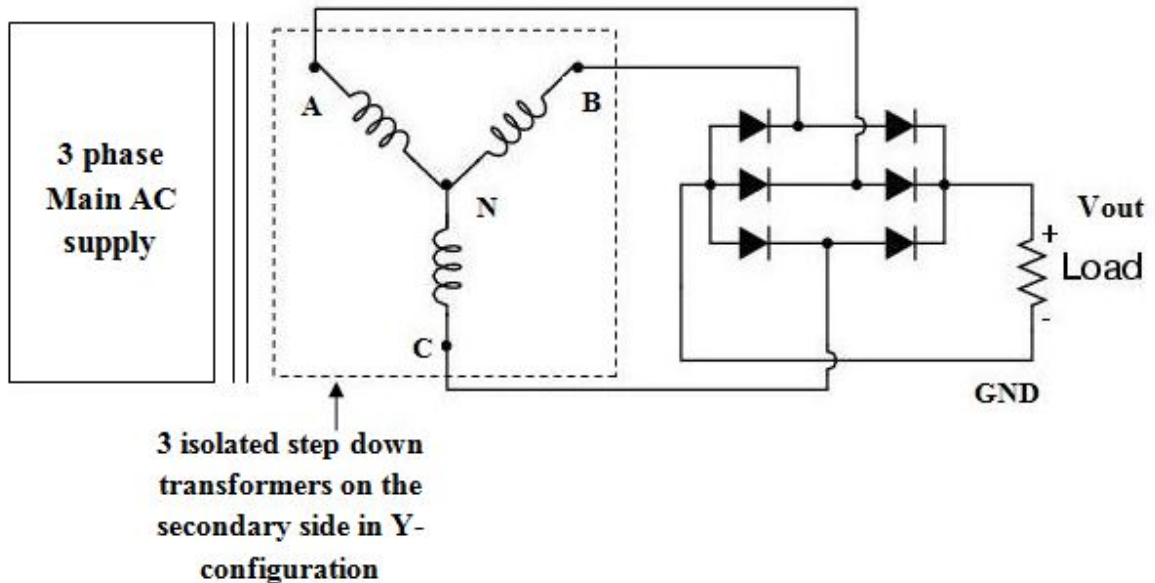

Figure 2. Three-phase full-wave bridge rectifier circuit diagram for implementation
1. Arrange the circuit as shown in Figure 2. Use the three step down transformers and connect them on the secondary side in Y-configuration as shown in figure.